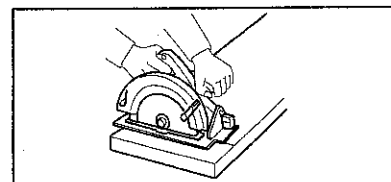
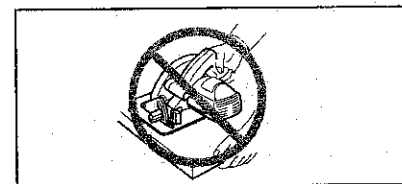

Fig. 5
Fig. 6
16. Place the wider portion of the saw base on that part of the workpiece which is solidly supported, not on the section that will fall off when the cut is made. As examples, Fig. 5 illustrates the RIGHT way to cut off the end of a board, and Fig. 6 the WRONG way. If the workpiece is short or small, clamp it down. **DO NOT TRY TO HOLD SHORT PIECES BY HAND!**